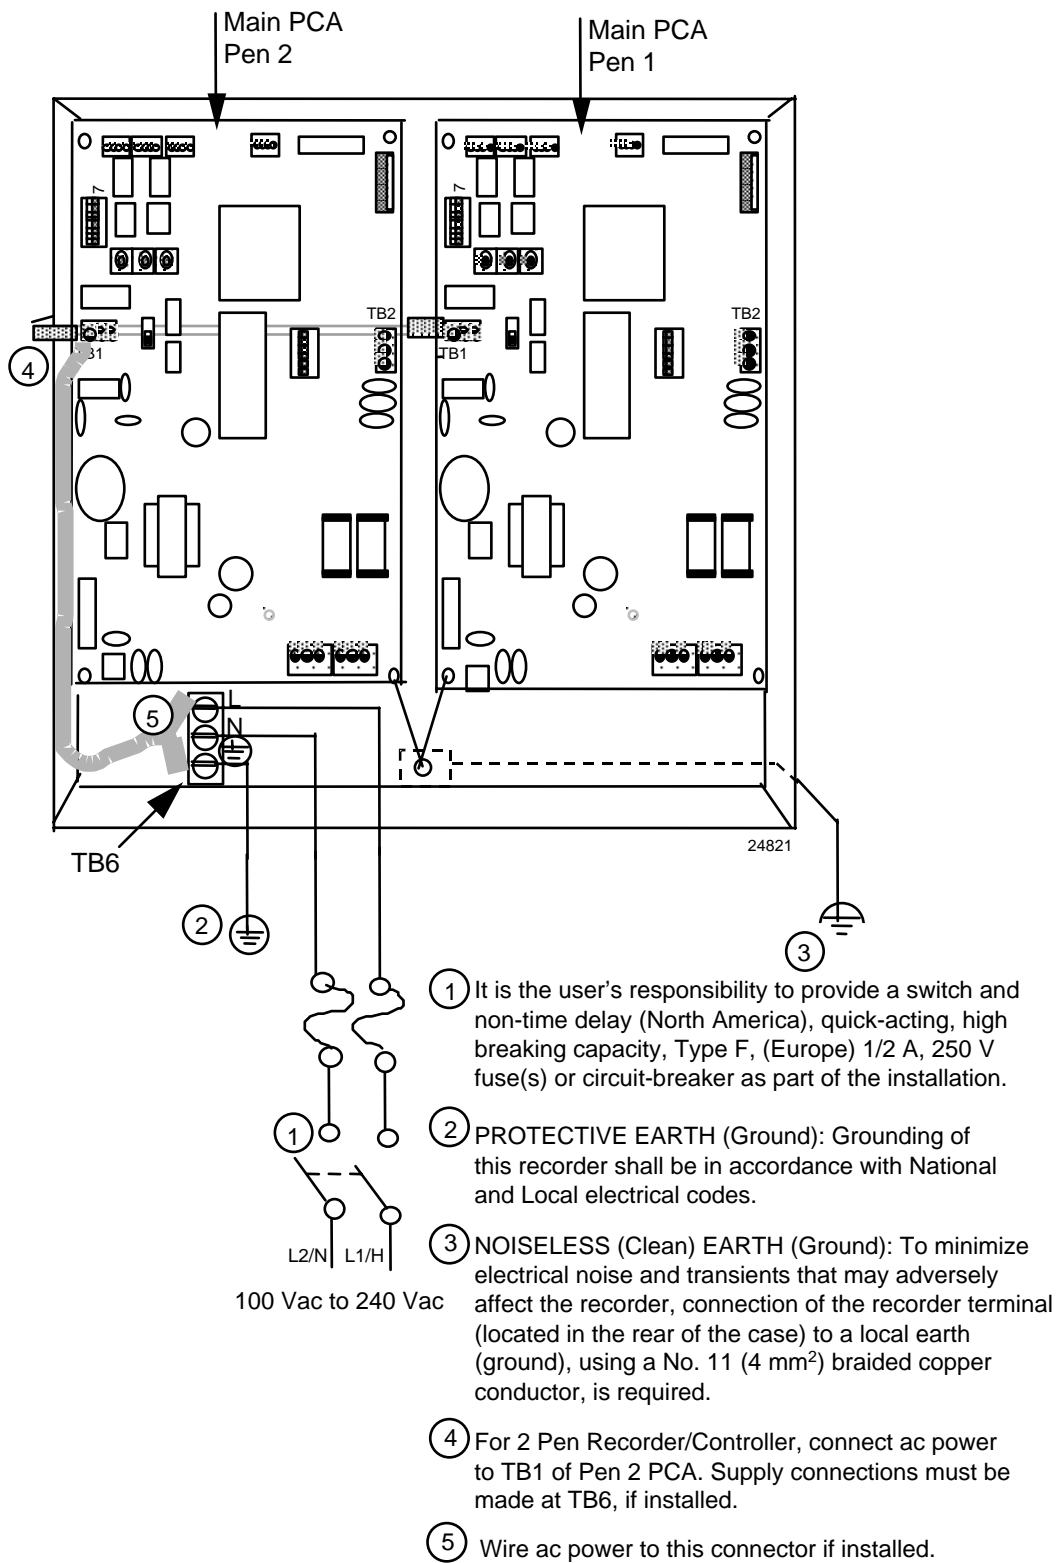
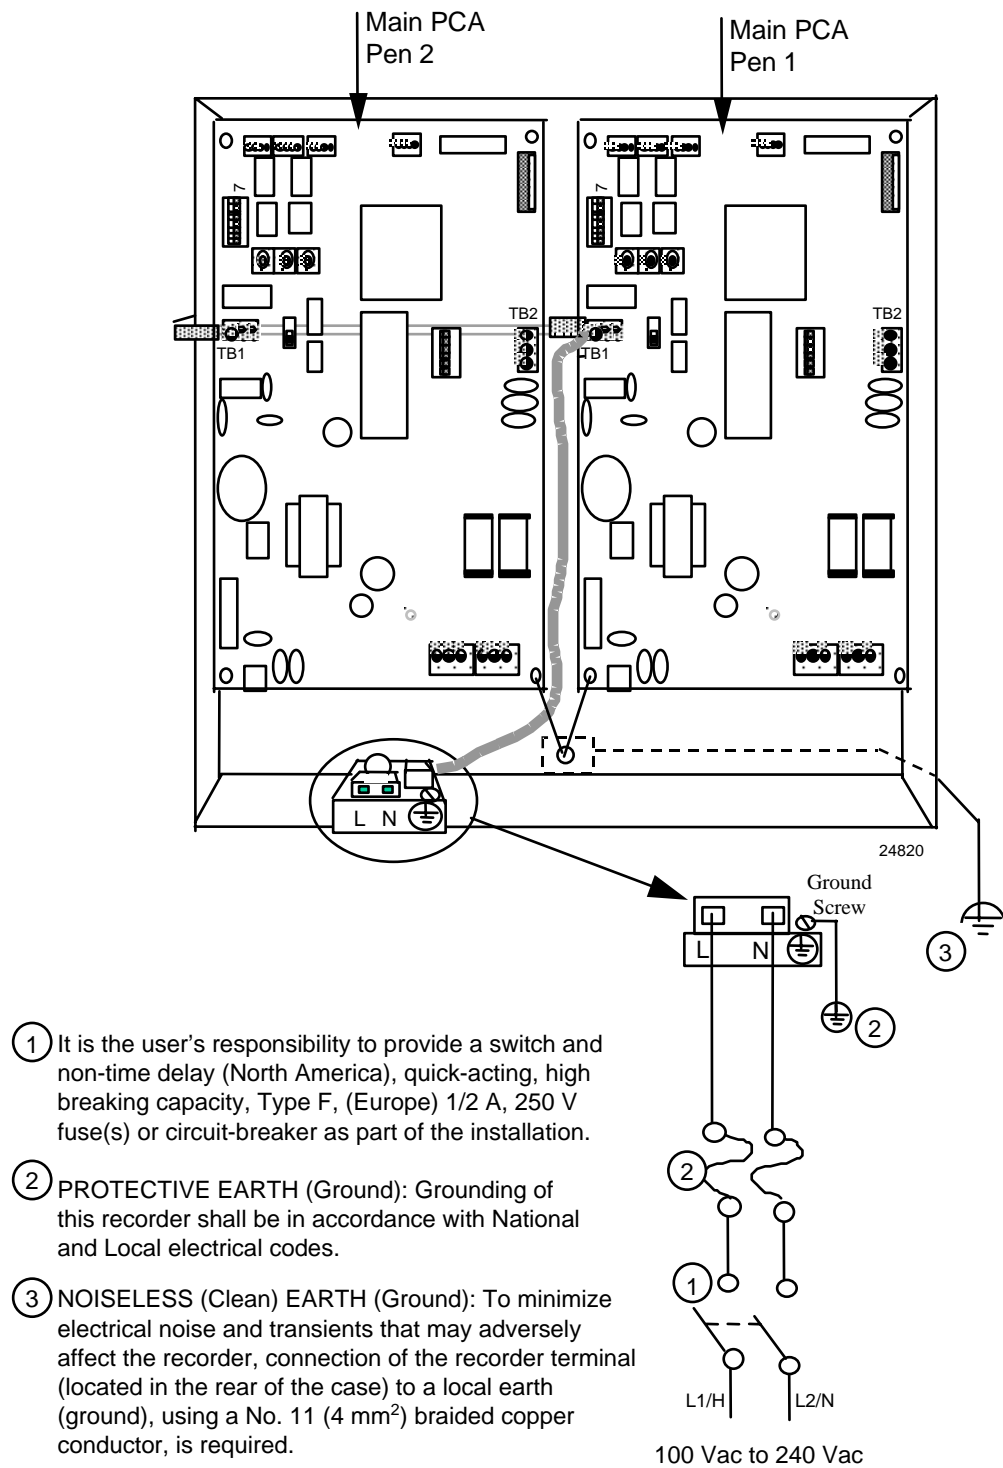

Figure 2-9 Power Wiring – Models Without CE Mark
Figure 2-10 Power Wiring – Models With CE Mark
Power Wiring - Models Without CE Mark	Figure 2-9
Power Wiring - Models With CE Mark	Figure 2-10
- Figure 2-9 for models without CE Mark.
- Figure 2-10 for models with CE Mark.
2	Locate the power terminal block for your recorder model. <ul style="list-style-type: none"> <li>• See Figure 2-9 for models without CE Mark.</li> <li>• See Figure 2-10 for models with CE Mark.</li> </ul> Note that the power connection between the boards on two-pen models is made at the factory. On CE Mark and UL models the connection between the terminal block at the bottom of the case and the PCA is also made at the factory. In all models, you only have to connect power to a single terminal block.
ATTENTION: To avoid damaging the recorder, be sure that you install the power wires into the correct screw terminals as shown Figure 2-9 and Figure 2-10.
ATTENTION To avoid damaging the recorder, be sure that you install the power wires into the correct screw terminals as shown in Figure 2-9 and Figure 2-10.
ATTENTION To avoid damaging the recorder, be sure that you install the power wires into the correct screw terminals as shown Figure 2-9 and Figure 2-10.